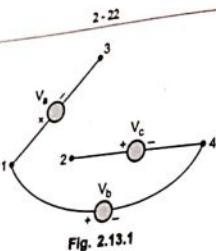

Fig. 2.13.1
**Ex. 2.13.1** Three voltages are connected as shown in the Fig. 2.13.1.